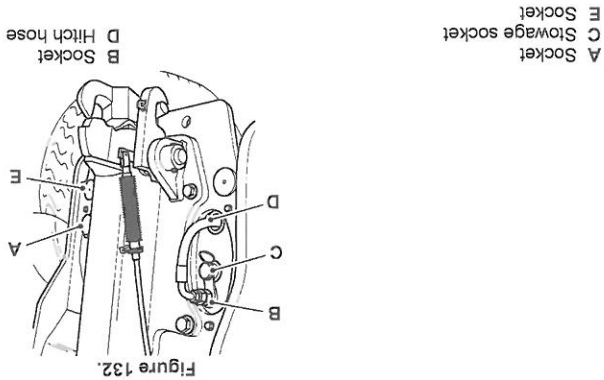

Figure 132.
1. Connect the trailer lights into socket. Refer to Figure 132.
- 5.1. Disconnect the hydraulic hitch hose from the socket and reconnect to stowage socket. Refer to Figure 132.
- 5.2. Connect the trailer auxiliary hose to socket. Set the trailer switch to position I, the switch light should be extinguished. Refer to Figure 132.